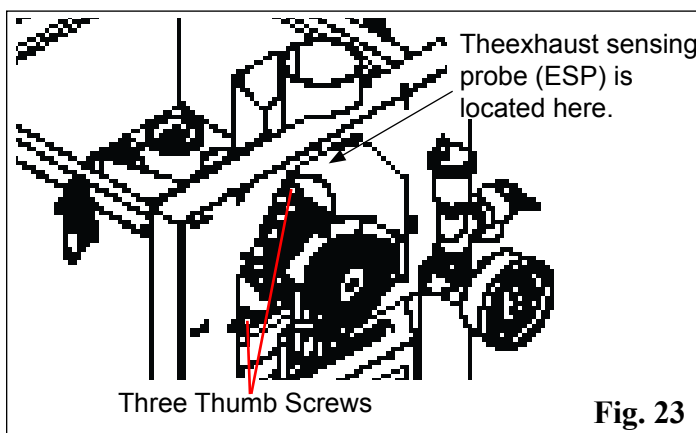

Fig. 23
Loosen the three (3) thumb screws about 4 turns each. See Fig. 23. Hold the motor head with one hand and the blower plate handle with the other hand. Pull outward on the plate handle until the complete unit comes loose. Now rotate the plate counter-clockwise about 1/8 turn. This will allow the complete assembly to be removed from the blower chamber.
**NOTE:** The horizontal flue pipe directly above the boiler is the first place fly ash will settle, due to the slowing of flue gas velocity through horizontal pipe. Cleaning of horizontal venting pipes is very important to the efficiency of this boiler. **NOTE:** The exhaust probe sensing tip extends into this same area. **CARE MUST BE TAKEN NOT TO DAMAGE THE ESP DURING CLEANING. Bending of the ESP will make it difficult to remove if it should become necessary. See Fig. 23.**